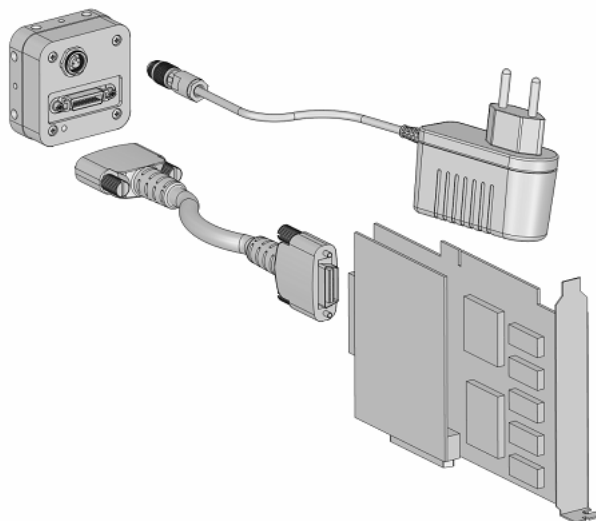

Figure 2.2: Camera with frame grabber, power supply and CameraLink cable.
5. Connect the camera to the frame grabber with a suitable CameraLink cable (see Fig. 2.2).
7. Connect the power supply to the camera (see Fig. 2.2).